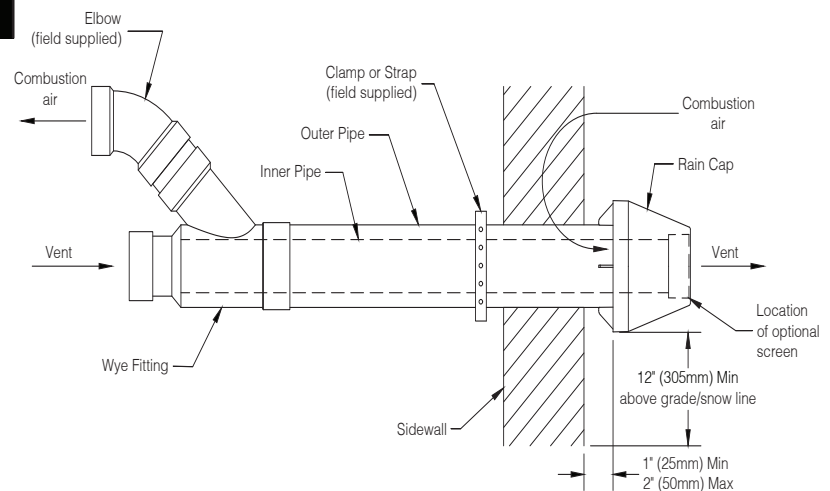

Figure 8-11: CPVC/PVC Concentric Terminal Installation
3. Follow terminal manufacturer's instructions and Figure 8-11 for assembly.